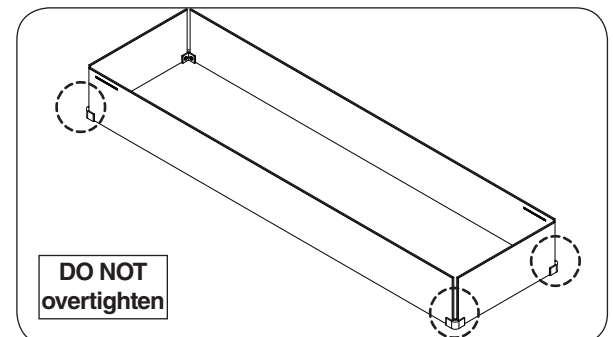

Fig. 20-5 Assemble all panels
2. Assemble all panels with remaining top brackets. **DO NOT overtighten screws. Tighten until snug. Overtightening can break glass.** See Fig. 20-5.